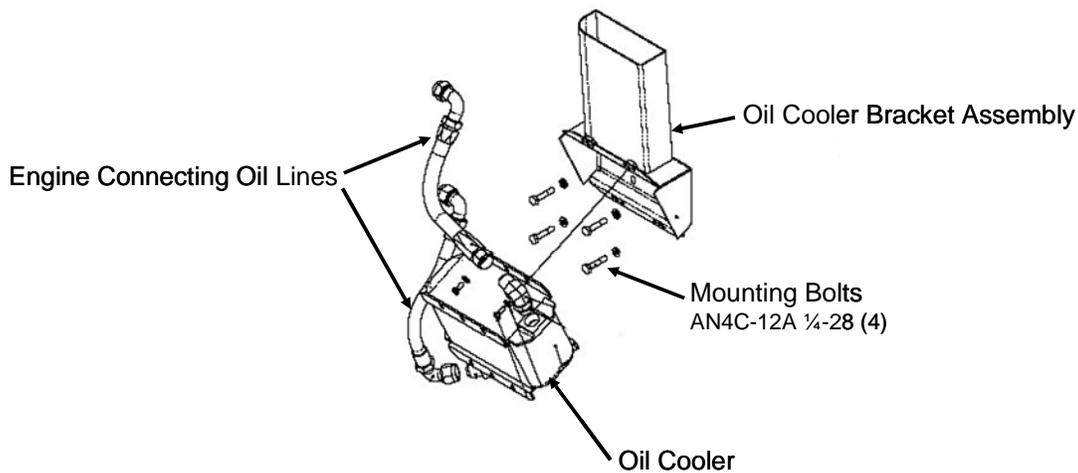

Figure 71-11 Oil Cooler Installation
2. Using hoist, place dressed engine assembly in correct position to allow (4) engine mount bolts to be inserted.
3. Install (4) engine mounts in accordance with Page 35 of this Chapter.
4. Connect oil cooler to oil cooler bracket assembly as shown in Figure 71-11. Torque $\frac{1}{4}$ -28 mounting bolts in accordance with torque tables provided in Chapter 20 *Standard Practices Airframe*.